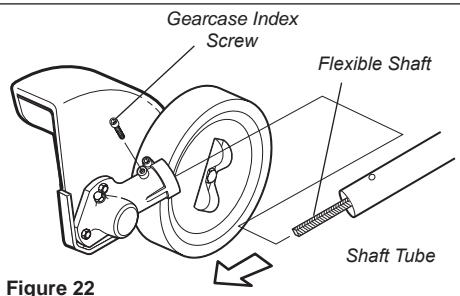

Figure 22
- Use a hooked wire to extract the fuel filter from inside the fuel tank. See Figure 22. Remove and replace the filter element. Before reinstalling the new filter element, inspect the condition of all the fuel system components (fuel pick-up line, fuel return line, tank vent line, tank vent, fuel cap and fuel tank). If damage, splitting or deterioration is noted, the unit should be removed from service until it can be inspected or repaired by a Shindaiwa-trained service technician.